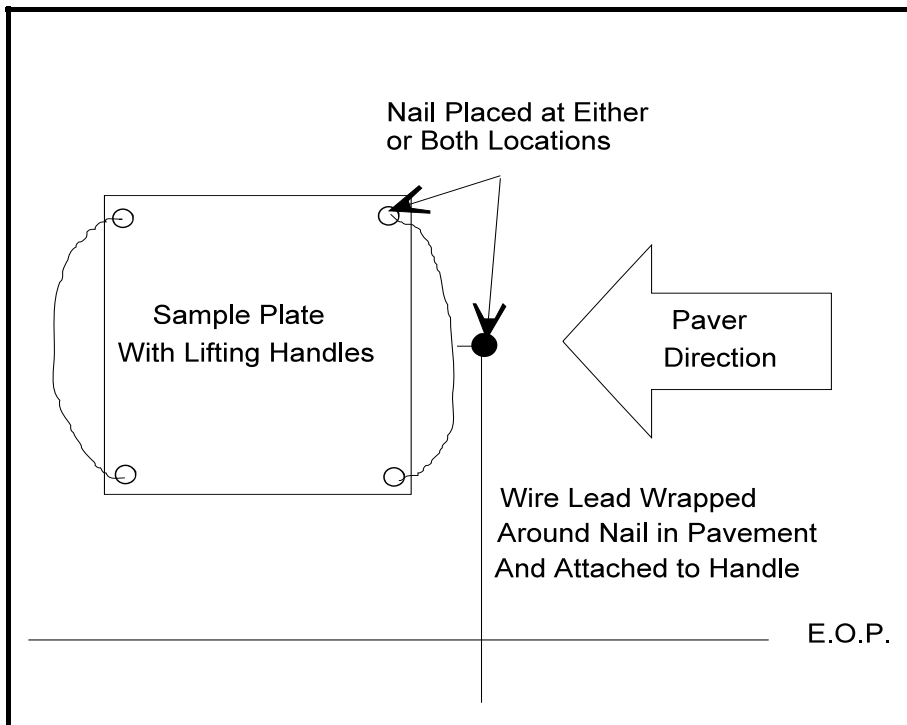

Figure 2 : Placing Sample Plate Ahead of Paver
- 3.1 Sampling Plates - (3 each) The sampling plates used for Superpave mixtures shall be rectangular and have a minimum size of 14 x 28 inches (360 x 720 mm). For Marshall mixtures optional plates can be used that are square at a minimum size of 14 x 14 inches (360 x 360 mm) (Fig. 2). All plates will have a hole approximately 0.25 inches (6 mm) in diameter drilled through each of the four corners.
5.2 Place the plate with the wire lead attached to one of the handles at the designated location ahead of the paver (Fig. 2). If conditions on the project require restricting movement of the plate, drive a nail through one of the holes in the plate and into the pavement.